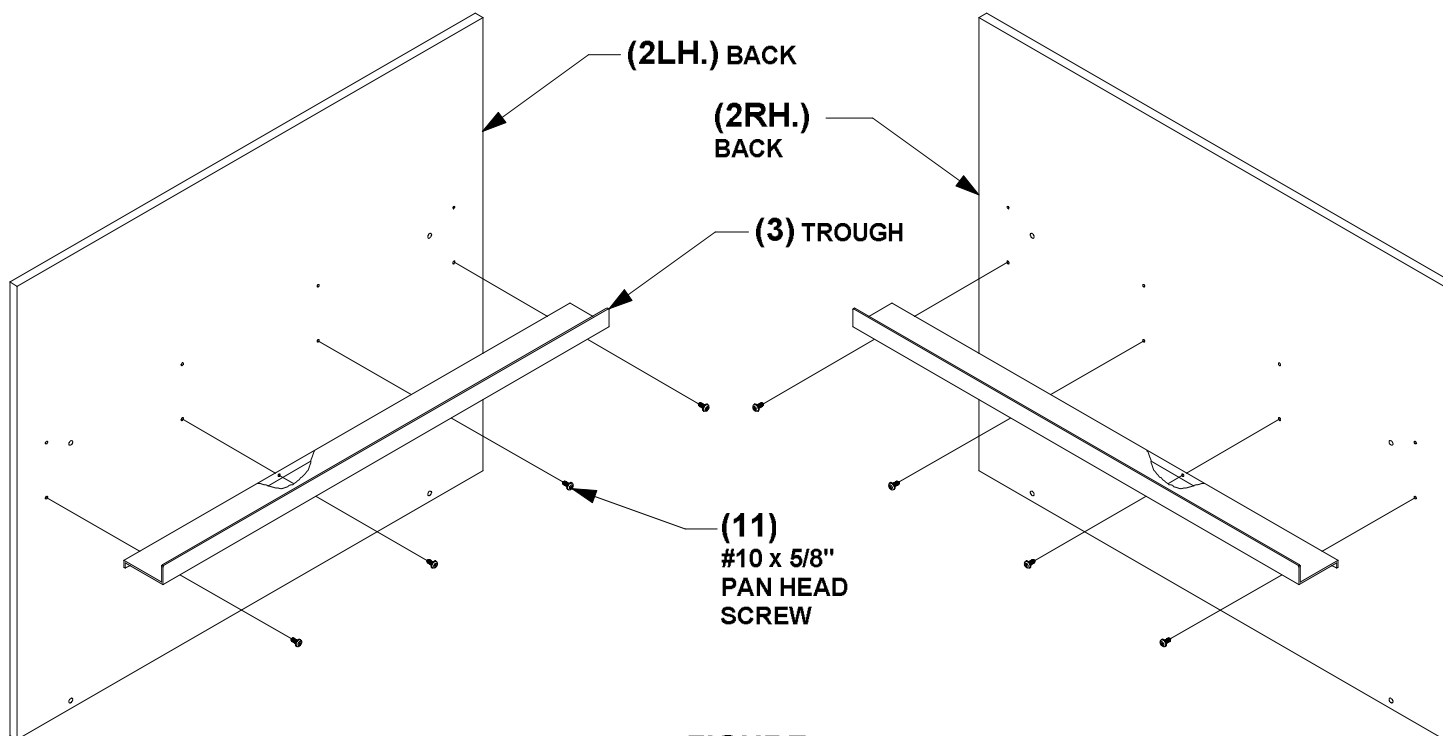

FIGURE 2
4. Attach troughs (3) to backs (2LH., 2RH.) using #10 x 5/8" pan head screws (11). See figure 2.